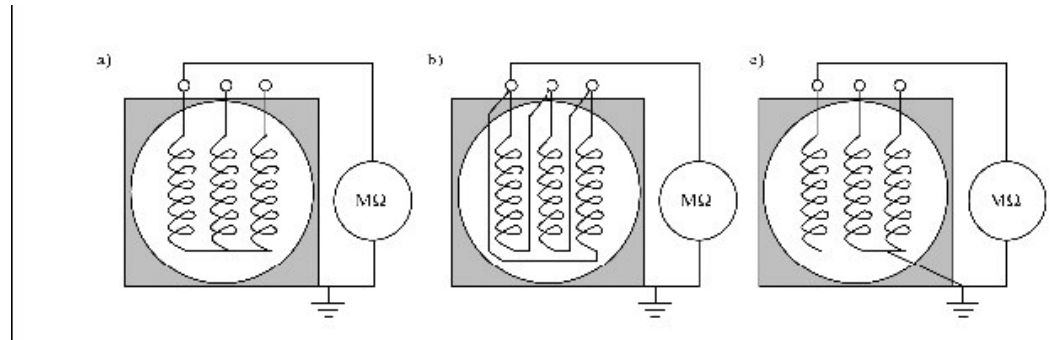

Figure 7-3. Connection of the stator windings for insulation resistance measurements.
- The secondary connections of the current transformers (CT's), including spare cores are not open, see *Figure 7-3. Connection of the stator windings for insulation resistance measurements, part a.*
The insulation resistance measuring should be carried out in the terminal box. The test is usually performed to the whole winding as a group, in which case the meter is connected between the frame of the machine and the winding, see *part a* and *part b* of *Figure 7-3. Connection of the stator windings for insulation resistance measurements.* The frame is earthed and the three phases of the stator winding remain connected at the neutral point, see *part A* of *Figure 7-3. Connection of the stator windings for insulation resistance measurements.* In the figure MΩ represents the insulation resistance tester.
the windings. The frame and the two phases not measured are earthed, see *part c* of *Figure 7-3. Connection of the stator windings for insulation resistance measurements*. In the figure MΩ represents the insulation resistance tester.
In *Figure 7-3*: